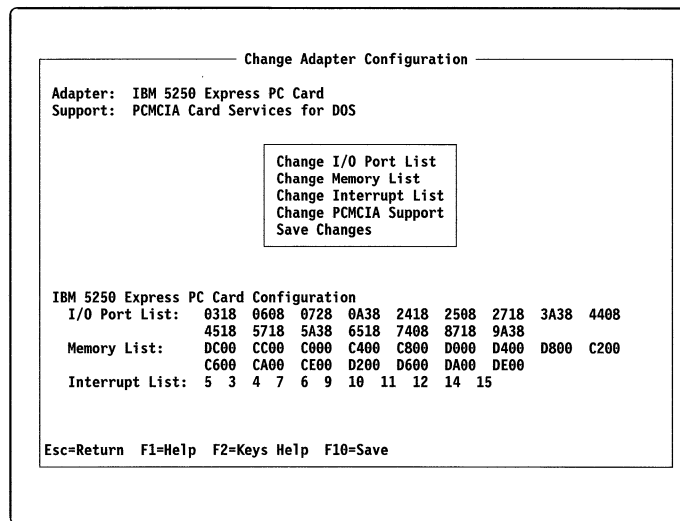

Figure 12. Change Adapter Configuration Screen
2. From the Adapter Configuration Menu, select Adapter Configuration. The Change Adapter Configuration screen, similar to the one shown in Figure 12, appears.
If a screen similar to the one in Figure 12 does not appear, see “Point Enabling the Controller” on page 28.